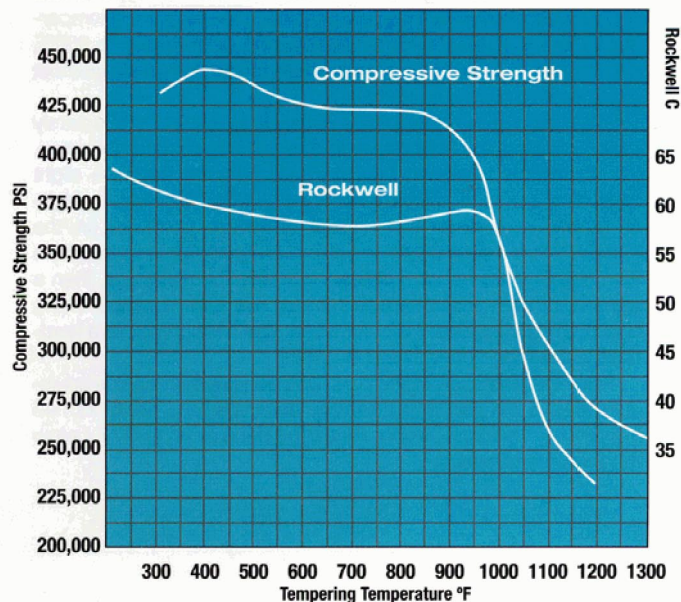

Figure 1
**COMPRESSIVE STRENGTH** — Test specimens were machined oversize, heat treated and finished by grinding to 0.505 in. dia. x 0.750 in. long. Heat-treatment consisted of heating at 1850°F and tempering at 100-degree intervals, at temperatures ranging from 300 to 1300°F. The specimens were checked for hardness and were then compressed between hardened steel plates. The results obtained are shown in Figure 1.